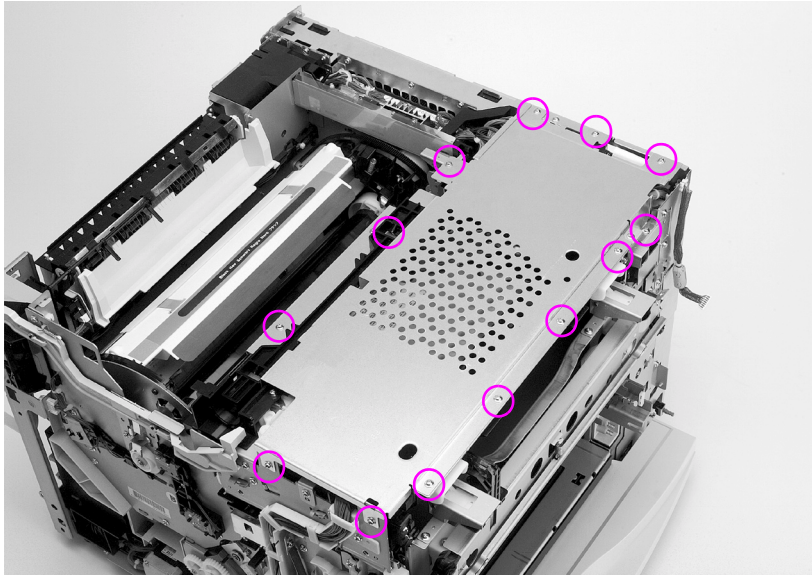

Figure 6-13 RFI shield removal and replacement
- 3 Remove the 13 screws shown in Figure 6-13.